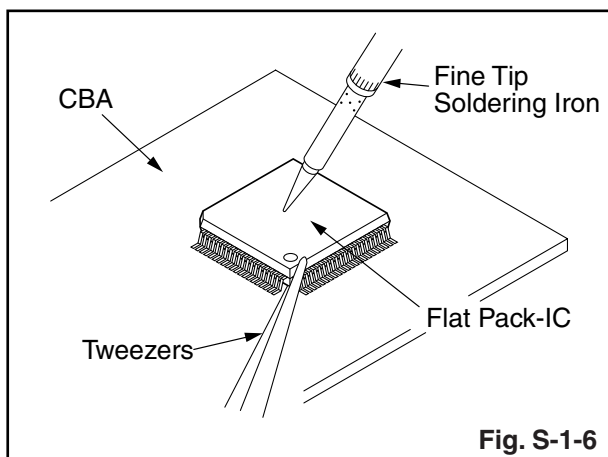

Fig. S-1-6
- (2) Remove the flat pack-IC with tweezers while applying the hot air.
- (3) Bottom of the flat pack-IC is fixed with glue to the CBA; when removing entire flat pack-IC, first apply soldering iron to center of the flat pack-IC and heat up. Then remove (glue will be melted). (Fig. S-1-6)
- (4) Release the flat pack-IC from the CBA using tweezers. (Fig. S-1-6)
- (4) Bottom of the flat pack-IC is fixed with glue to the CBA; when removing entire flat pack-IC, first apply soldering iron to center of the flat pack-IC and heat up. Then remove (glue will be melted). (Fig. S-1-6)
- (5) Release the flat pack-IC from the CBA using tweezers. (Fig. S-1-6)